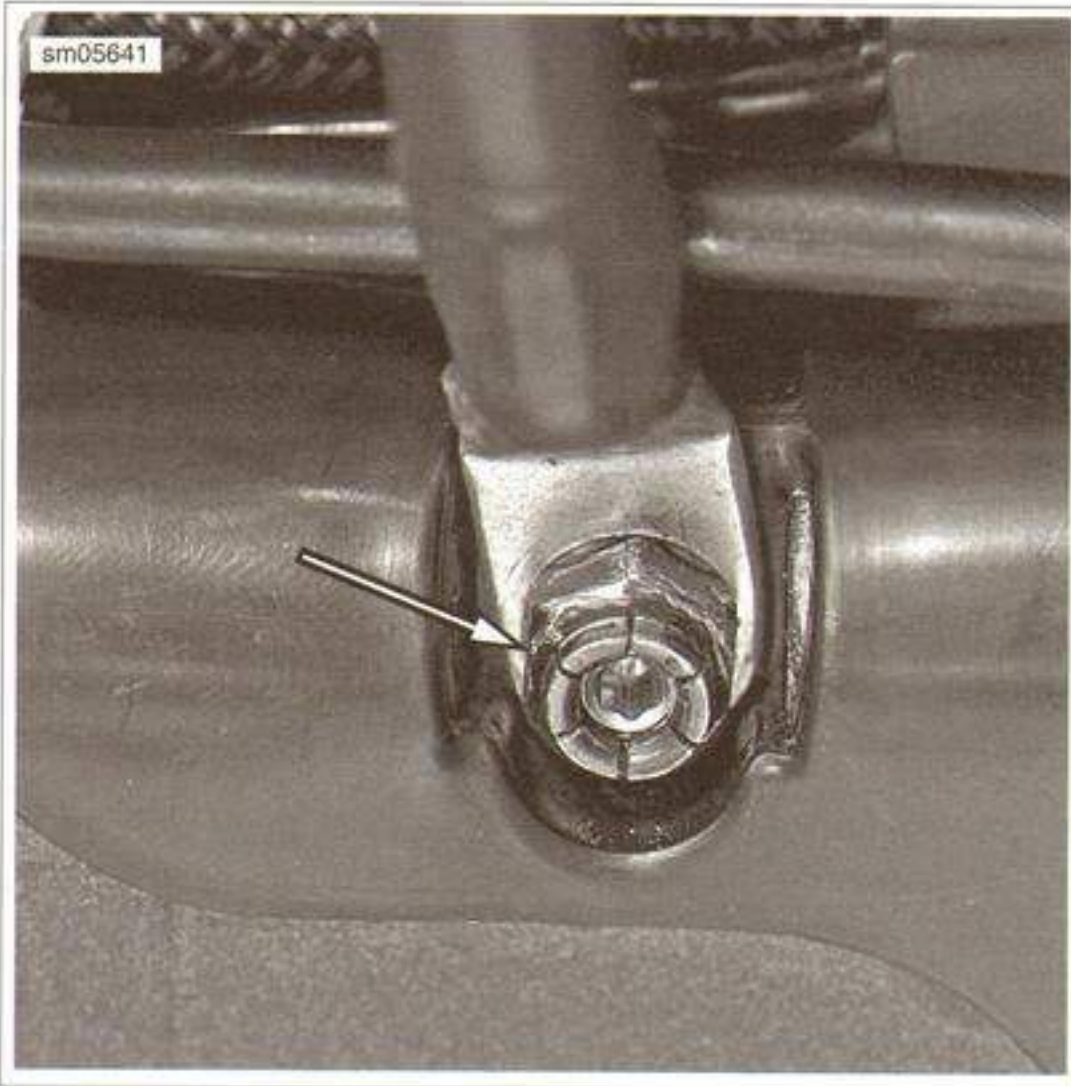

Figure 7-13. Negative Battery Cable Ground
4. See Figure 7-13. Remove the nut and the negative battery cable at the frame ground.